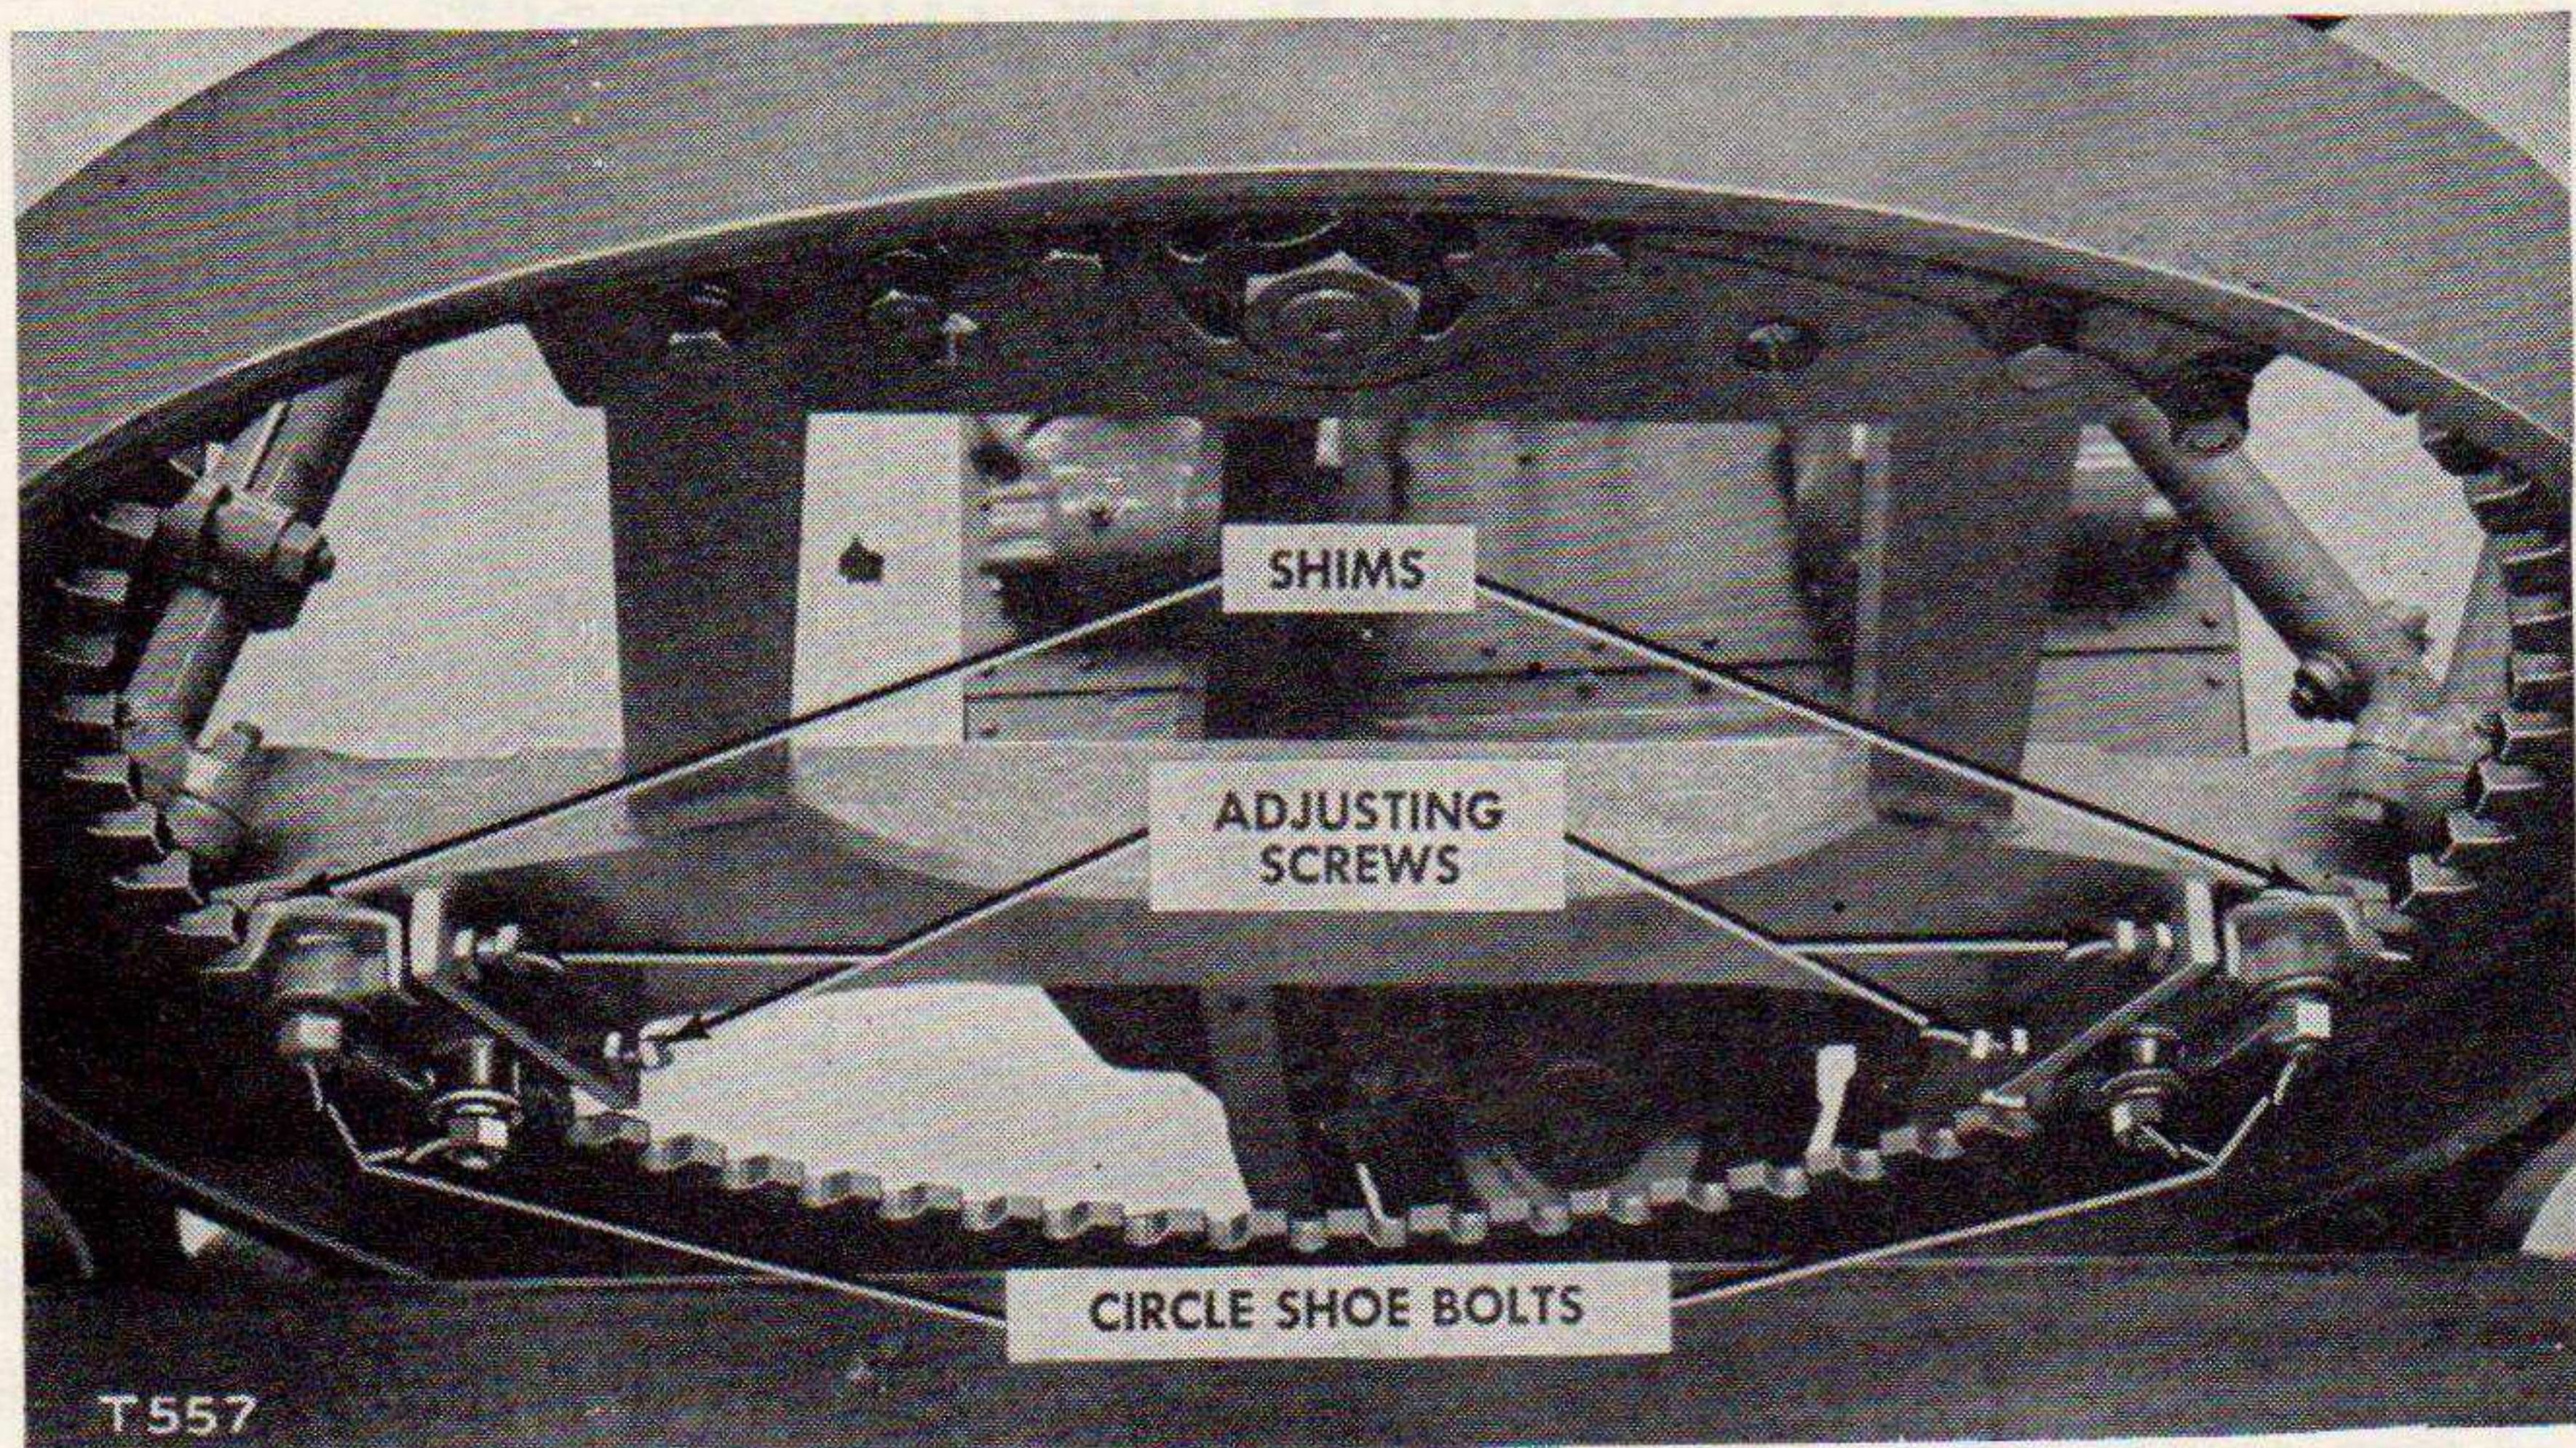

Figure 117. Circle adjustment.
(2) *Adjustment procedure.* (See fig. 117.)
### b. ADJUSTMENT TO ELIMINATE SIDE PLAY. (See fig. 117.)